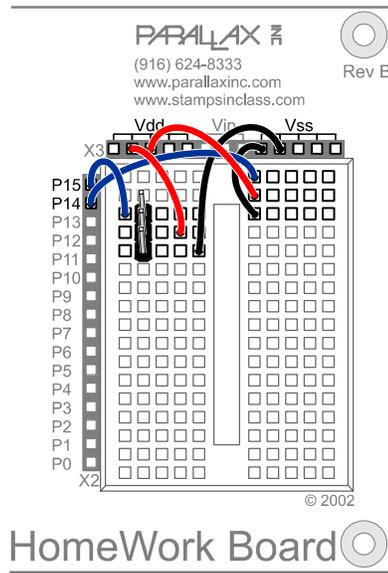

Figure 2-10
- √ Build the breadboard connections as shown in Figure 2-10.